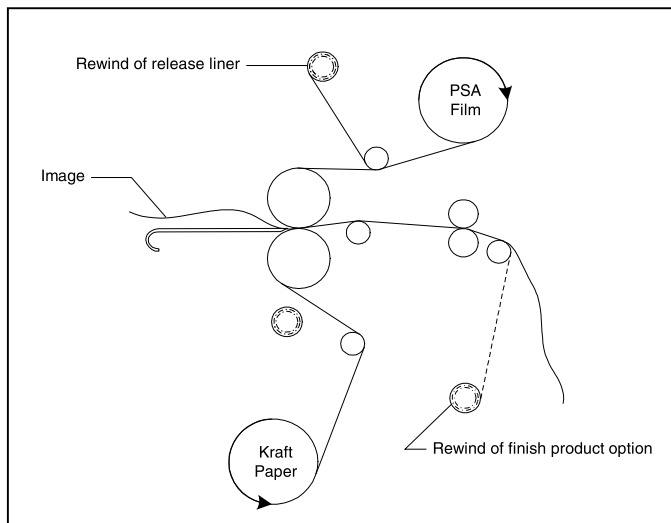

Fig. 39
TIPS FOR SINGLE SIDED LAMINATION (Figure 39)
1. Load the laminator as illustrated in Figure 39.